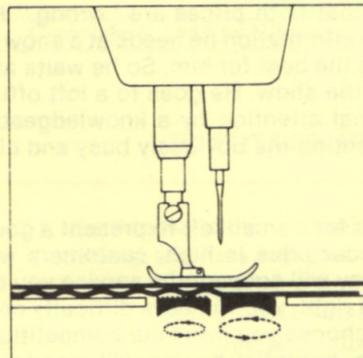

Figure 6:
*It would be wise just to mention the **unison feed** which combines the walking foot and the moving needle of the compound feed. Then there are various combinations of **differential bottom feeds** (Figure 6) which gather material and **variable top feeds** or **variable "walking feet"** which accommodate the new stretch knits very nicely.